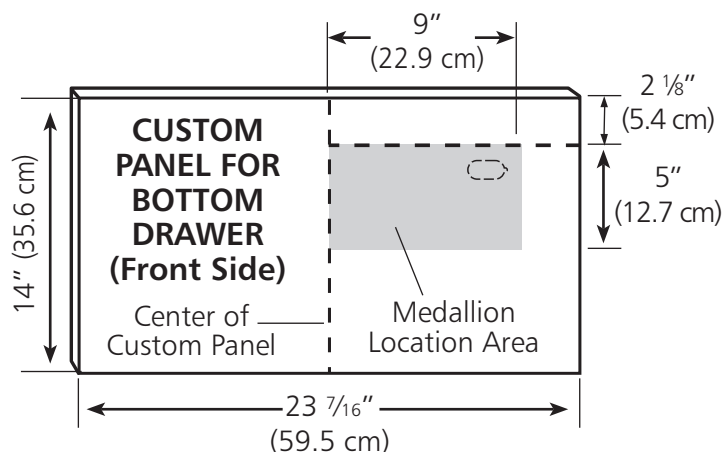

FIGURE 1B
- 2) Cut the bottom drawer custom door panel to size as shown (See figure 1B). The custom panels may be wider than the dishwasher in order to match the surrounding cabinets.
- 5) On the front side of the bottom drawer custom door panel, measure, mark and cut a hole for the medallion to size as shown (See figures 1B & 2).
NOTE: The medallion must be placed within the specified medallion area. Do not locate outside of this specified area (See figure 1B).